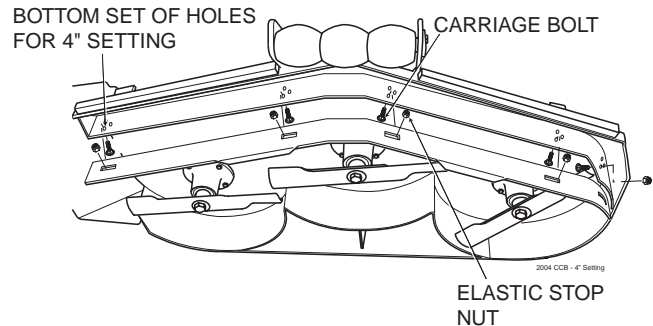

Figure 8. 4" Custom-Cut Baffle Position
- C. 4" Position - baffle is installed using the bottom set of holes on the front baffle welded inside the cutter deck. (See Figure 8, Page 12). Placing the baffle in the 4" setting will enhance fall cutting (leaf pickup) and reduce cutter deck "blowout".